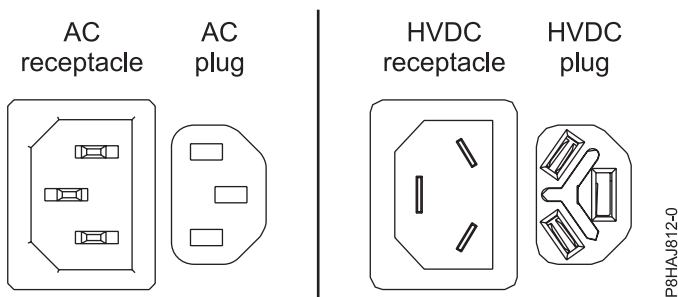
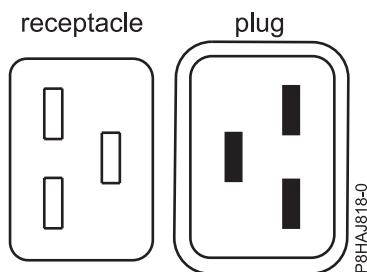
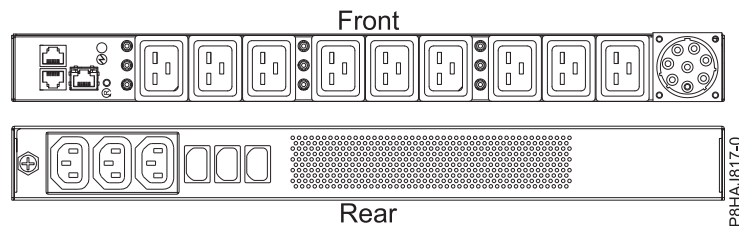

Figure 74. AC and HVDC connectors
Figure 75. Connectors for the 8408-44E system
Figure 76. PDU for the 8408-44E system
- The power cord is fastened to the system using the hook-and-loop fastener (A). If you are placing the system in a service position after disconnecting the power cords, then ensure that you unstrap the fastener.
Figure 74 shows the supported alternate current (AC) and high voltage direct current (HVDC) connectors. Figure 75 and Figure 76 show the supported connectors and power distribution unit (PDU) for 8408-44E.